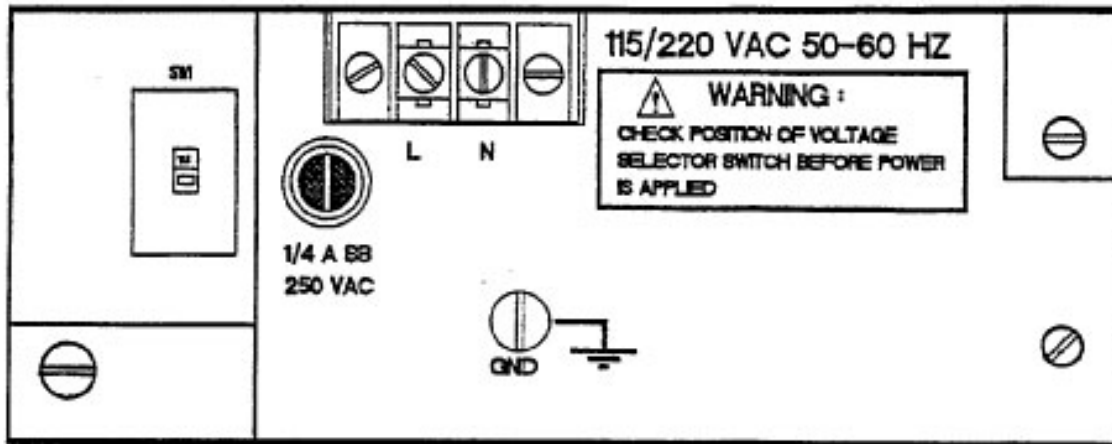

Figure 2-4. Ac Power Connections and Fuse
2.3.4 Mains (AC) Power (Figure 2-4).
can be switch selected to operate at 115 or 220 VAC (see SW1, Figure 2-4). Before connecting power to the unit, verify that the proper power selection has been made. The two position terminal block is equipped with a clear plastic cover to prevent operator injury. Cable can be either solid or stranded 12 or 14 gage with a ground conductor. The transmitter is protected with a 1/4 amp slow blow fuse, located adjacent to the mains terminal block. If the fuse opens, replace it with the same type and current rating.
All units are shipped from the factory configured for 115 VAC operation. To change the voltage selection to 230 VAC, change SW1 (see Figure 2-4) to the 230V setting. The unit will operate within specification at 50 or 60 Hz.